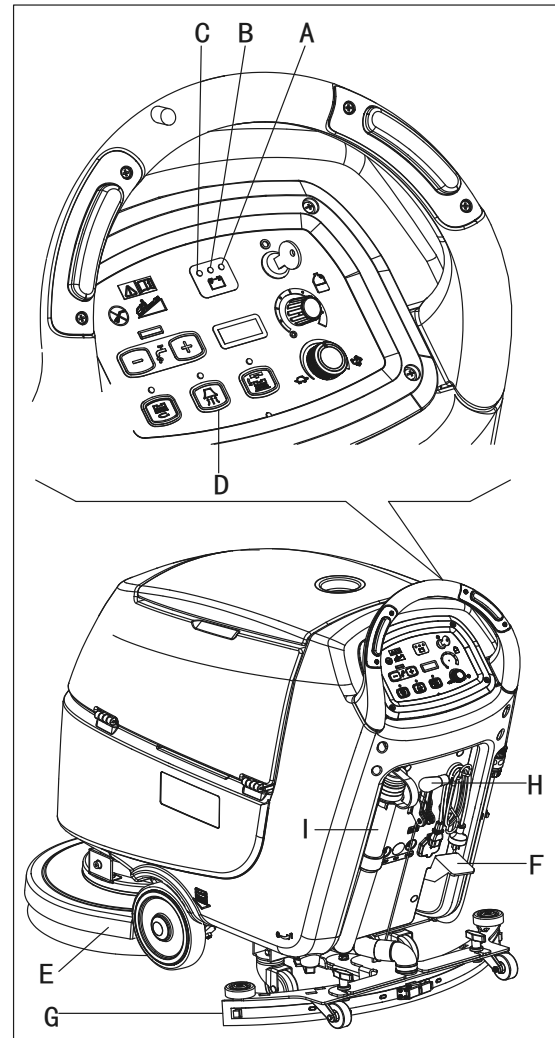

Figure 12
Until the green warning light (A, Figure. 12) stays on, the batteries allow the machine to work normally. When the green warning light (A) turns off, and the yellow warning light (B) turns on, it is advisable to charge the batteries, because the remaining charge will last for a few minutes (depending on battery characteristics and work to be performed). When the red warning light (C) turns on, batteries are fully discharged. After a few seconds, the brush/pad-holder is automatically tuned off, while (only for machine with traction) the drive system stay on, to finish drying the floor and drive the machine to the appointed recharging area.
If the vacuum system turns off accidentally (for example, when the float is activated because of a sudden machine movement), to resume the operation: turn off the vacuum system by pressing the switch (D, Figure. 12), then open the cover (C, Figure. 13) and check that the float inside the grid (A) has gone down to the water level. Then close the cover (C) and turn on the vacuum system by pressing the switch (D, Figure. 12).
2. Lift the brush/pad-holder deck (E, Figure. 12) by pressing the pedal (F). (only for disc machine)
3. Lift the squeegee (G) with the lever (H).